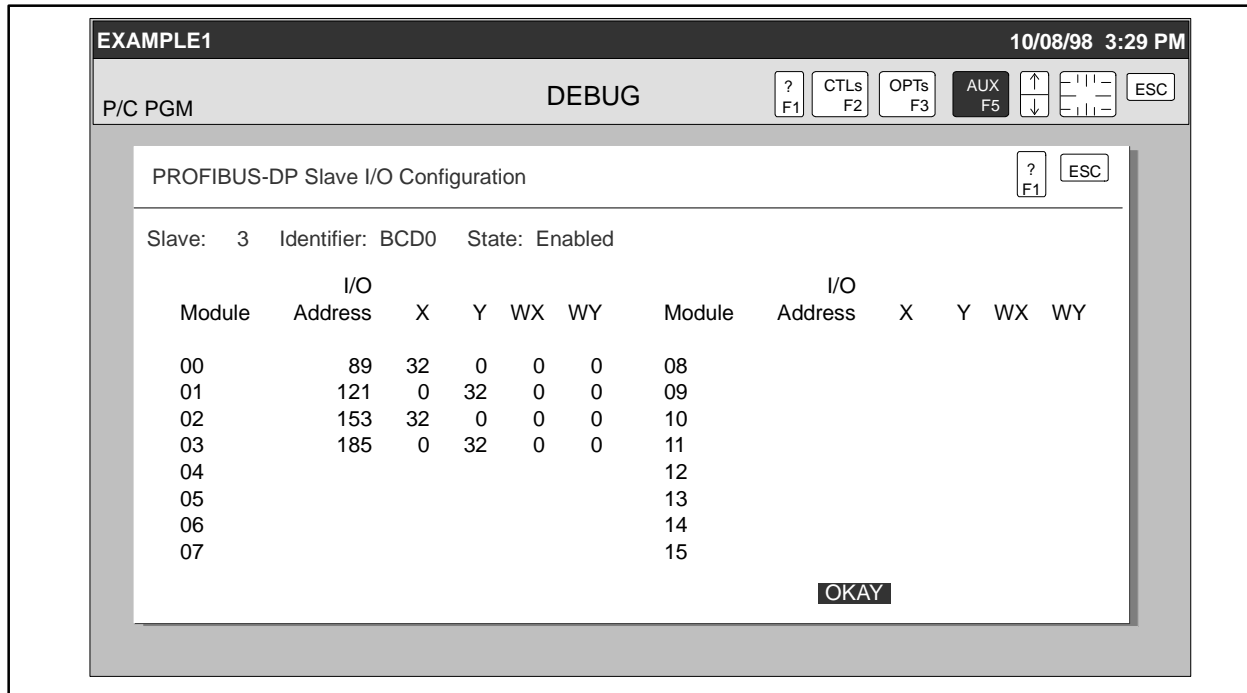

Figure 9-27 PROFIBUS-DP Slave I/O Configuration Report
4. Enter the address of the slave that you want to view, and press **Enter** twice. The PROFIBUS-DP Slave I/O Configuration report appears (Figure 9-27).